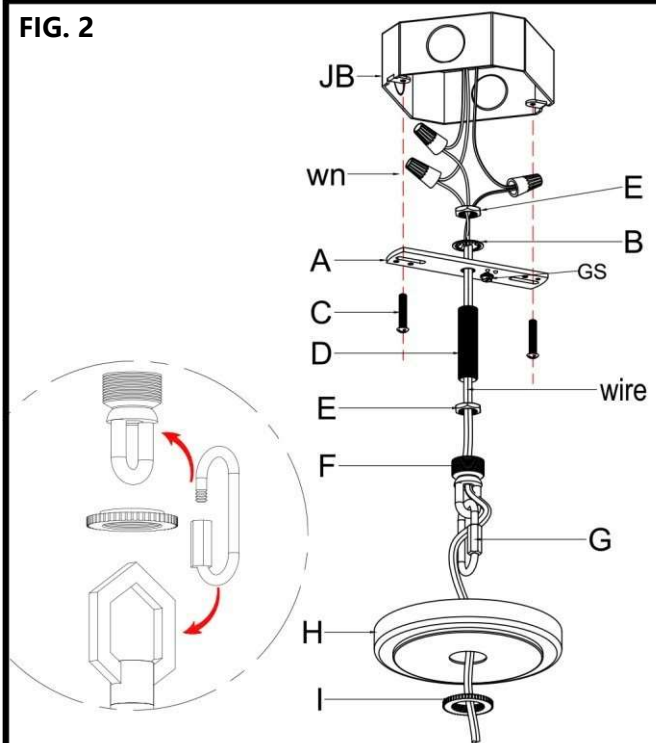

Fig. 3
CONNECTING THE WIRE (Fig. 3)
13. Connect the electrical wire as shown in Fig. 3, making sure that all the wire connectors are secured. If your junction box has a ground wire (green, or bare copper), connect fixture's ground wire to it. Otherwise connect fixture's ground wire directly to crossbar (A) using green screw provided.
14. Tuck wire connections neatly into junction box (JB).
15. Raise canopy over collar loop (F) and secure with collar ring (I).